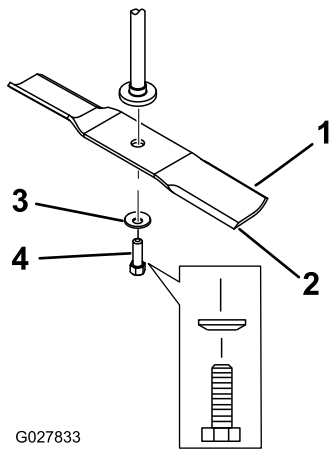

Figure 57
2. Remove the blade bolt, curved washer, and blade from the spindle shaft (Figure 57).
- Install the blade onto the spindle shaft (Figure 57).
- Install the curved washer (cupped side toward the blade) and the blade bolt (Figure 57).